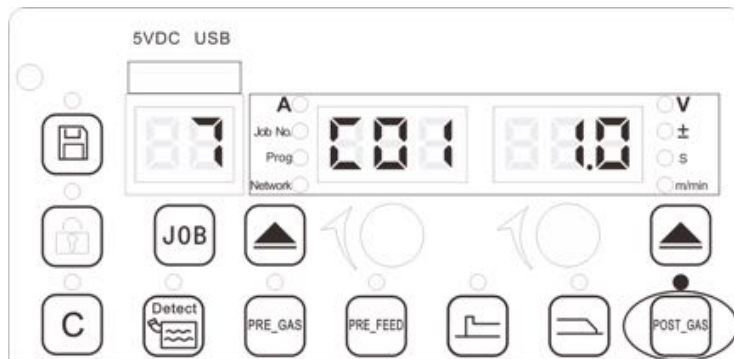

Figure 3-24 Parameters setting view of Post-gas
1. Press the “post-gas” button to activate the post-gas function and wait for the indicator turns on, the view for post-gas is shown in Figure 3-24.